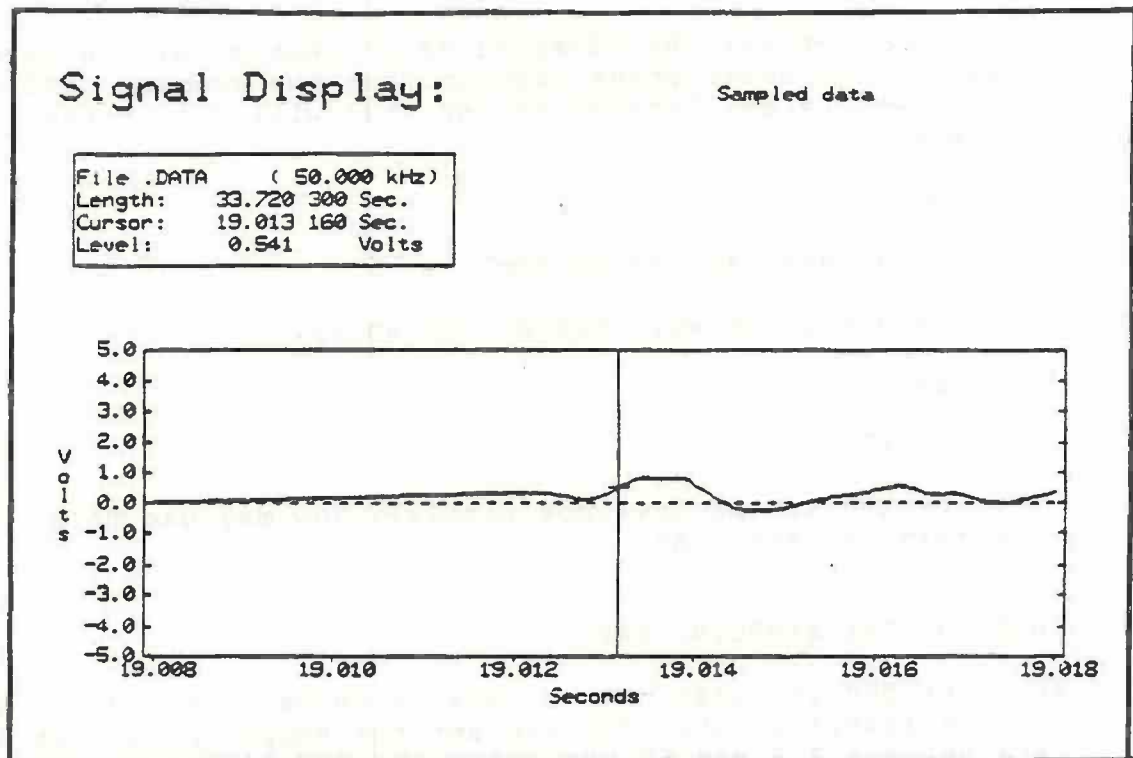

Figure 5.9
8. Now move the cursor to a sample where you would like to place a starting play marker. We used the SEARCH command in our Long File to locate a point where the amplitude had begun to increase but was still close to zero (Figure 5.9).